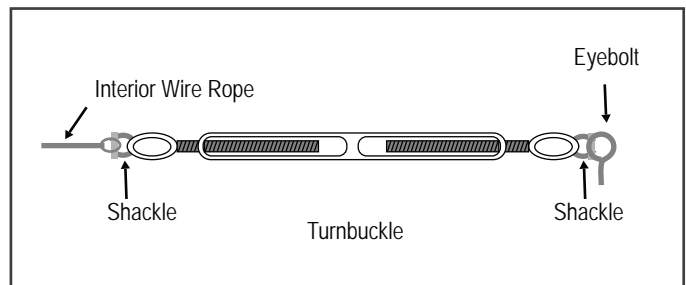

Fig. 6
1. At the beginning of the run, embed eyebolt into deck, making sure cable is back far enough from edge to ensure that there are no gaps between net and slab edge. NOTE: Depending on distance between columns, you may have to insert additional eyebolts to keep interior wire rope back from leading edge. Before you get to the last eyebolt, insert a turnbuckle (see figure 6). This will allow you to put tension on the cable.
2. Before you get to the last eyebolt, insert a turnbuckle (see figure 6). This will allow you to put tension on the cable.